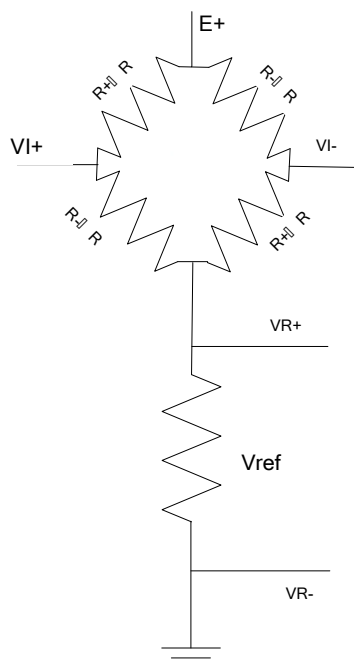

Figure 2
Additionally, the resistance temperature drift of general silicon pressure sensors are high. Thus, if the reference voltage is set as input voltage, temperature drift of span will fall in $-0.17\sim 0.27\%/^{\circ}\text{C}$. It is suggested to connect to a reference resistor, take the voltage difference of reference resistor as voltage reference, as Figure 2.
- Adopting the measurement method of Figure 2 helps to reduce considerably sensor span temperature drift.